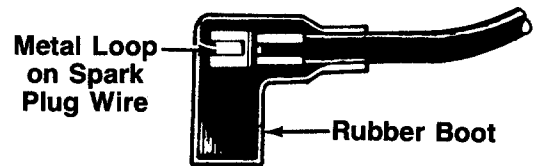

FIGURE 17.
2. Attach spark plug wire to spark plug. Make certain the metal loop on the end of the spark plug wire (inside the rubber boot) is fastened securely over the metal tip on the spark plug. See figure 17.